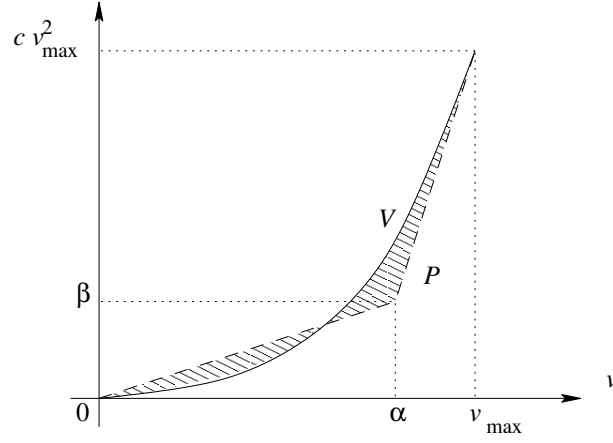

Figure 2: The quadratic function V and its PWA approximation P .
Step 2.2: Construct a piecewise-affine (PWA) approximation P with 2 regions of the friction force curve $V : [0, v_{\max}] \rightarrow \mathbb{R} : v \mapsto v^2$ as follows. We want a perfect match for $v = 0$ and $v = v_{\max}$. This implies that we still have two degrees of freedom, i.e., the coordinates (α, β) of the middle edge point of the PWA curve (see Figure 2). Now determine α and β such that the *squared* area between V and P (i.e., the squared area corresponding the hashed region in Figure 2) is minimized, or equivalently, such that